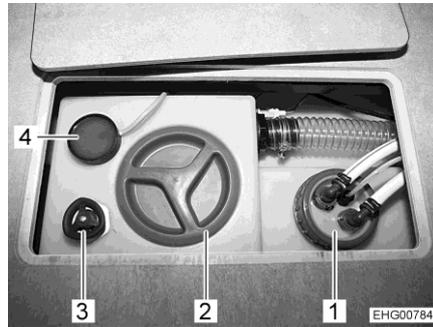

Fig. 129 Water drainage rotary handle
- Opening:* ■ Turn the rotary handle (Fig. 129,3) on the water anticlockwise as far as possible.
- Closing:* ■ Turn the rotary handle (Fig. 129,3) on the water tank clockwise as far as possible.